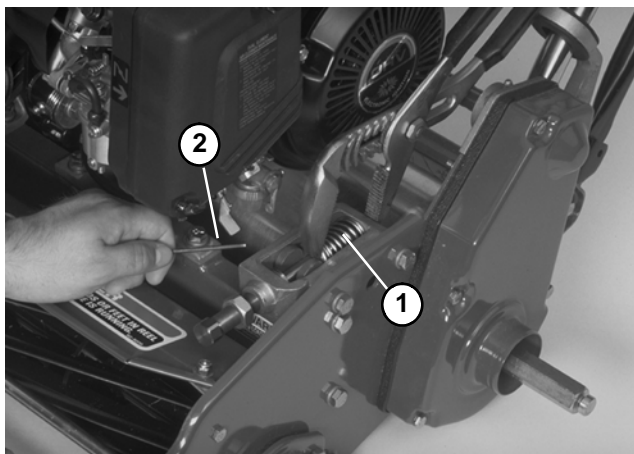

Figure 24
Use caution when removing the bedbar. Adjusting screw springs (Fig. 24) are under tension and could release suddenly.
3. Compress spring with a pair of channel lock pliers. Insert a pin to hold the spring in position (Fig. 24).